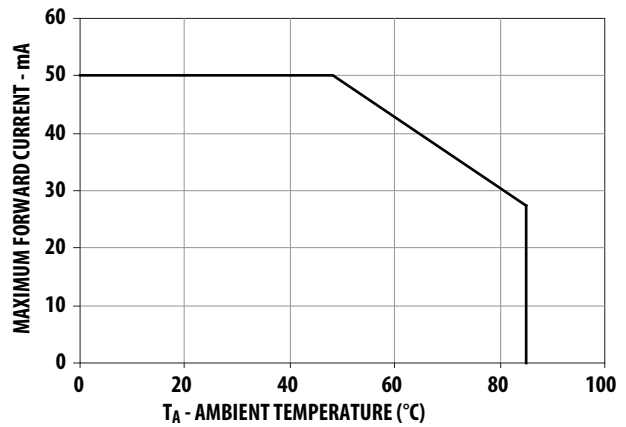
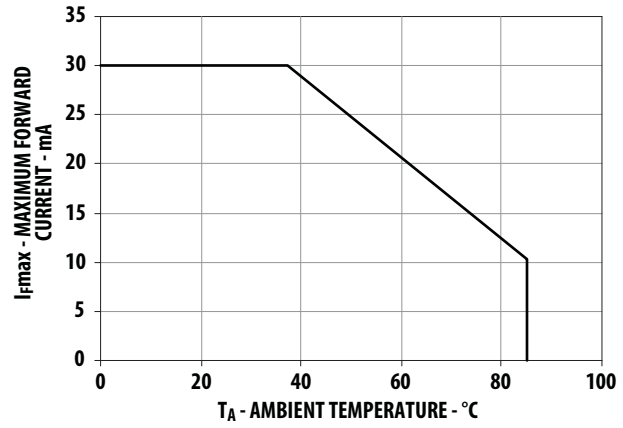

Figure 4. Maximum Forward Current vs Ambient Temperature
Figure 9. Maximum Forward Current vs Ambient Temperature
1. Derate linearly as shown in Figure 4 & Figure 9